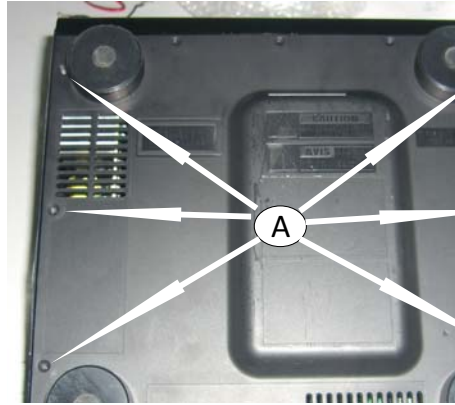

Figure 1
- 1) Before dismantling Main Unit, loosen 6 screw "A" as shown in figure 1.